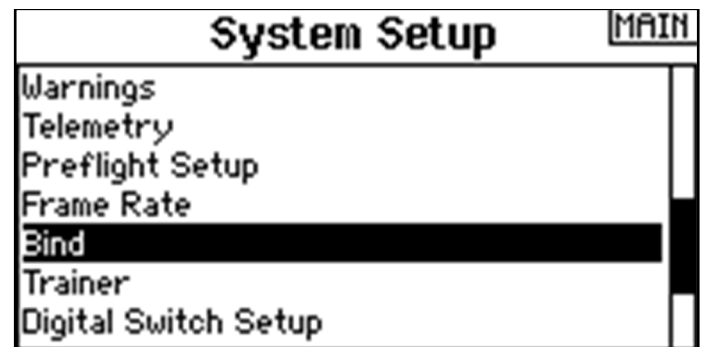

Figure 3: The "Bind" function in the System Setup
4. Switch on the transmitter for with the scroll wheel pressed. Select "Bind" in the "System Setups" menu (Fig. 3).